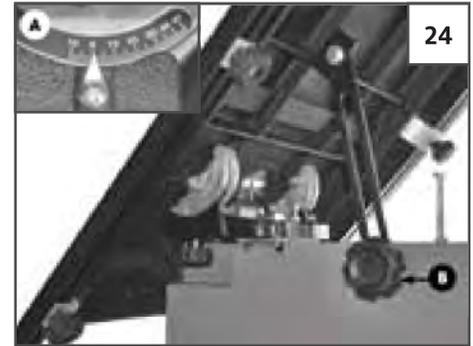

FIGURE 24: TABLE TILT ADJUSTMENT
1. Loosen **LOCK KNOBS (C)** (See Figure 25) and **LOCK KNOB (B)** (See Figure 24) located under the band saw table.
2. Tilt the table to desired angle. Refer to the **ANGLE INDICATOR (A)**.